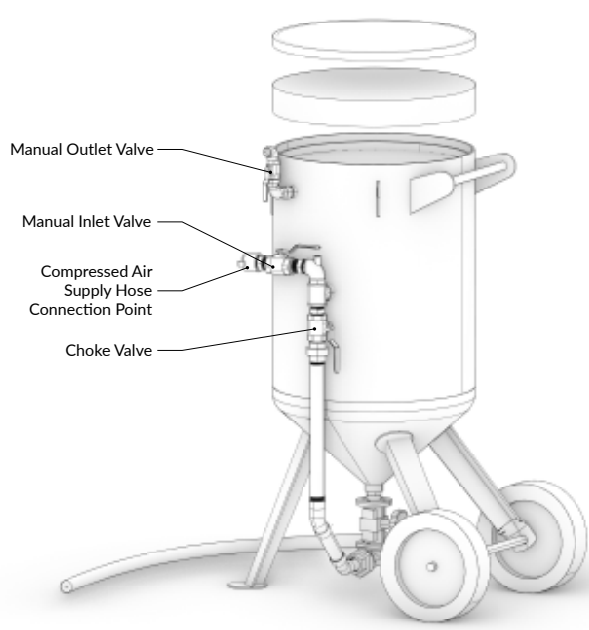

Figure 3
2.3 The basic components of the manual blast machine models are shown in Figure 3.